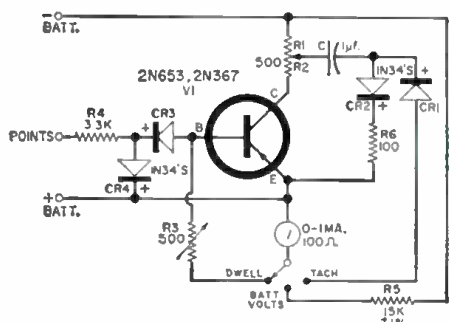

Fig. 5. Complete circuit diagram and parts values for the engine analyzer.
When the transistor conducts, the voltage at the junction of R_1 and R_2 drops (becomes less negative) and C discharges through V_1 , R_3 , R_6 , and CR_2 . The diodes in the input base circuit of the transistor (CR_1 and CR_2 in Fig. 5) pass a negative-voltage pulse to the base but block a positive-voltage pulse. The diodes are used to protect the transistor from high-voltage input spikes. If a higher-back-voltage diode is available, it can be installed in place of the 1N34 for CR_2 . Under these conditions, CR_1 would not be needed.
The layout and construction of the unit are not critical. Fig. 5 is the complete schematic of the unit. Transistor V_1 can be practically any audio or general-purpose $p-n-p$ germanium transistor. A *Motorola* 2N653 and a *Texas Instruments* 2N367 were used in the units constructed by the authors. The components may be laid out on a phenolic
interfering signal. Often the original signal enters through the antenna and causes havoc in some other way. Traps for various conditions and circuit configurations are shown in Fig. 5.
Fig. 5. Wave traps for short-wave sets: a single (A) series trap and combination series-parallel traps (B) for unbalanced (left) and balanced (right) antenna feed.